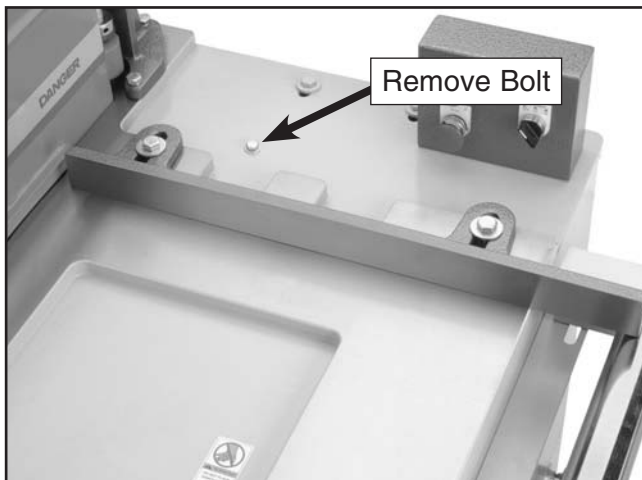

Figure 20. Bolt to be removed for safety guard.
1. Remove the bolts shown in **Figures 20 & 21**.